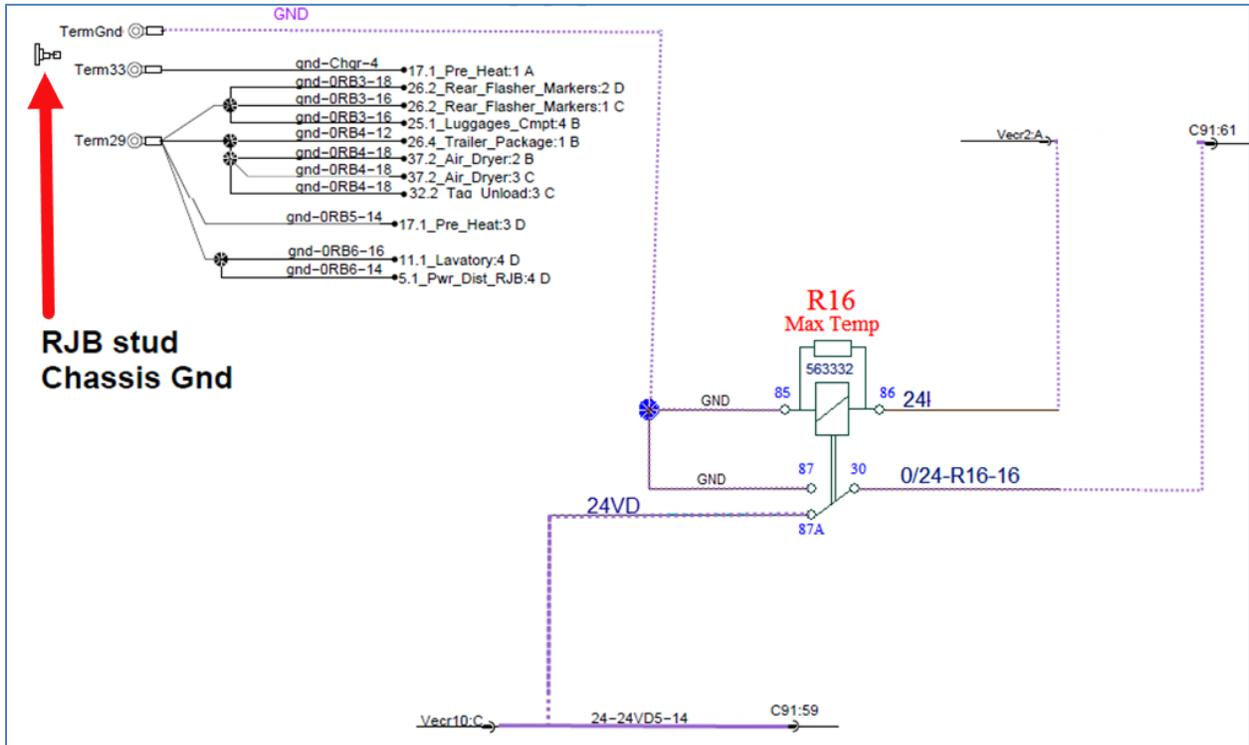

FIGURE 21
5. In the main power compartment: connect circuit 24VI of harness 0610219 to VECR connector 2 (red) pin A cavity (Figure 21).
6. Inside the main power compartment: connect circuit 0/24 of harness 0610219 to connector C91 pin 61 cavity (Figure 21).
7. Inside the main power compartment: splice circuit 24VD of harness 0610219 with circuit 24VD5 (Figure 21) using butt splice 562228. Take note that 24VD5 is routed between connector C91 pin 59 cavity and VECR connector 10 (yellow) pin C cavity.
8. Inside the main power compartment: connect circuit GND of harness 0610219 to the chassis ground stud (Figure 21).